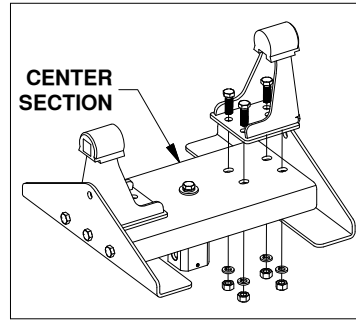
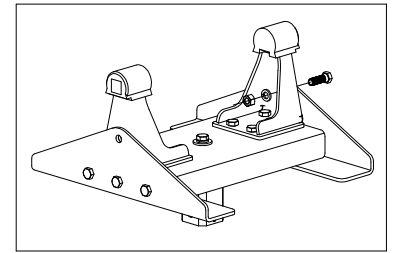

Figure B3: View of center section and pivot arm.
Figure B4: View of center section and pivot arm.
2. **Attach arms.** With the remaining ten 1/2" cap screws, 1/2" lock washers, and 1/2" nuts, attach the pivot arms to the base. Start by passing four cap screws through the top of a pivot arm down through the base and hand tighten with lock washers and nuts, as shown in Figure B3. Next, pass a single 1/2" cap screw through the side of the pivot arm and hand tighten with a lock washer and nut, as shown in Figure B4. Repeat these steps for the pivot arm on the other side of the center section. Torque each bolt to 110 ft-lbs.